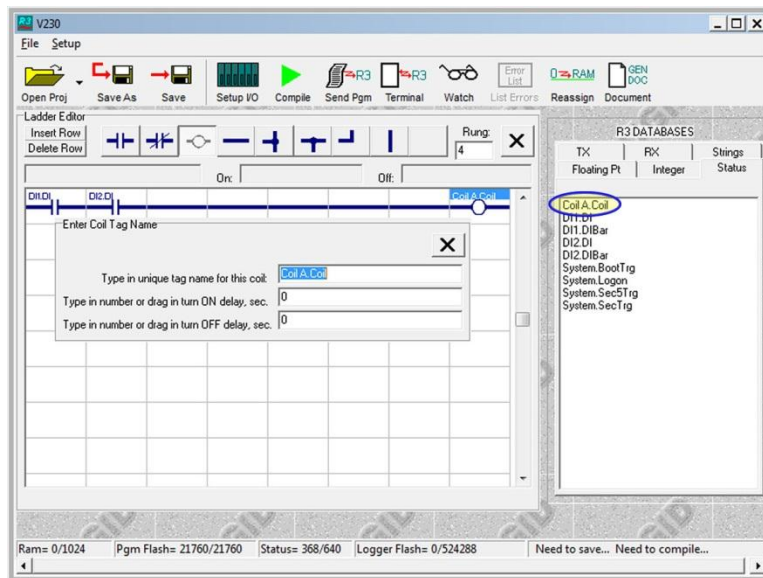

Figure 6 – Defining a coil
When a coil is placed on the schematic, a dialog box automatically pops up, see figure 6. In this dialog box a unique name must be entered for the coil; this will be the status that appears in the status database for the coil so it should be given a unique descriptive name that makes it easily identifiable. Also in the dialog box are two more entries, an ON delay and an OFF delay, both in seconds. The ON delay defines the number of seconds from when the ladder logic evaluates from false to true before the coil is energized (ON); the OFF delay defines the number of seconds from when the ladder logic evaluates from true to false before the coil is de-energized (OFF). Note that if the logic changes state during this delay, the coil does not; the logic state must be present throughout the entire delay. The delays may be left at the
When a coil is defined in the schematic, it now appears in the status database, reference the circled and highlighted variable in figure 6. The coil variable that is now present in the status database is now available for use throughout your program, including different rungs in your ladder logic, the same as any other database variable.